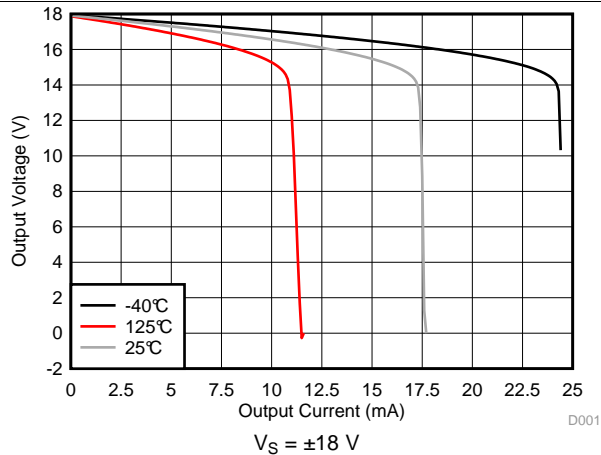
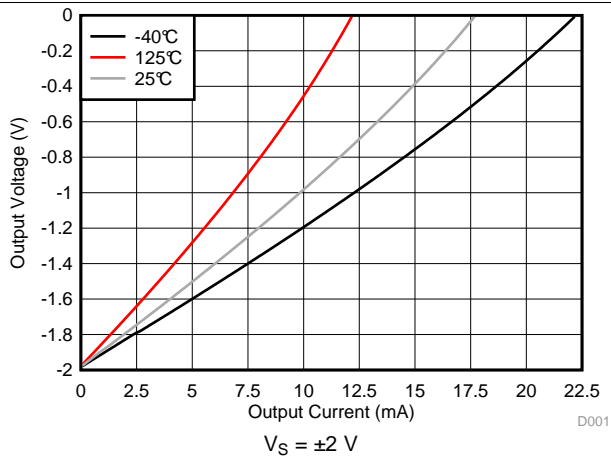

Figure 19. Positive Output Voltage Swing vs Output Current
Figure 22. Negative Output Voltage Swing vs Output Current
(5) See *Typical Characteristics* curves, *Output Voltage Swing vs Output Current* (Figure 19 to Figure 22).